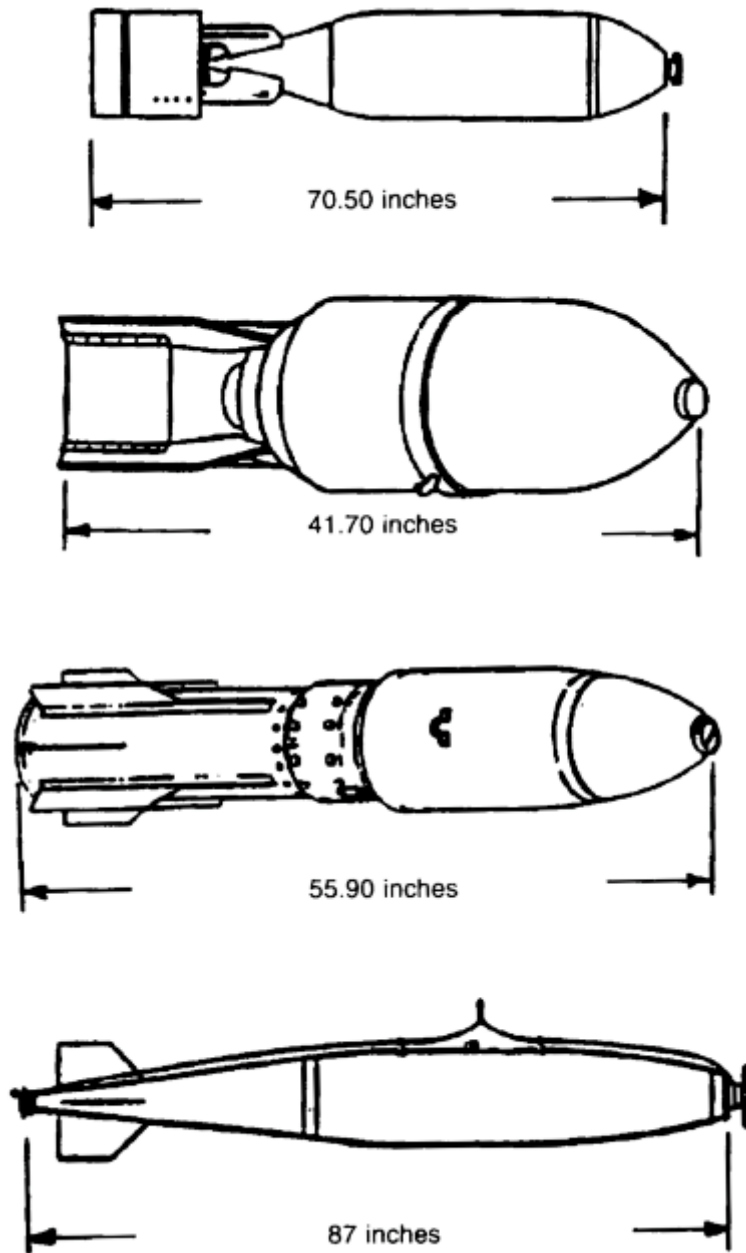

Figure 1
- (1) Dropped
- (a) Bombs (Figure 1)